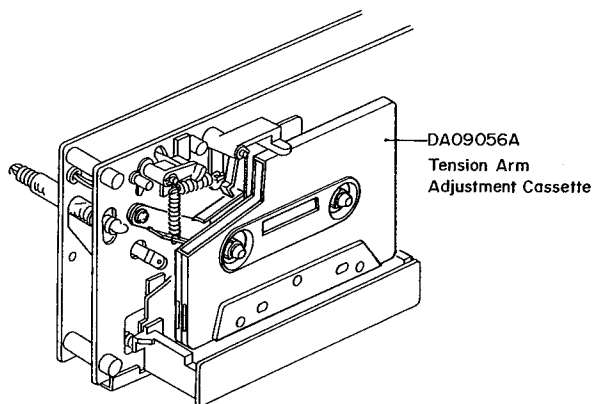
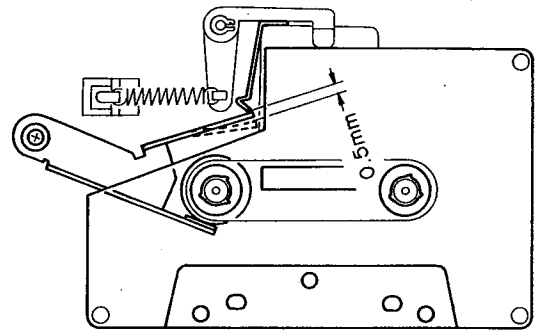

Fig. 4.18
Fig. 4.19
Refer to Figs. 4.18 – 4.21.
- (1) Load a Tension Arm Adjustment Cassette (DA 09056A) in the N-700ZXL referring to Fig. 4.18.
- (2) Set the N-700ZXL in Play mode.
- (3) Bend the Back Tension Arm with pliers so that the gap between the Cassette Holding Spring assembled on the Head Base Ass'y and the Back Tension Arm becomes 0.5 mm as shown in Fig. 4.19. Do not bend the pointed end of the Back Tension Arm.
- (4) Set the N-700ZXL in Stop mode, and remove the Tension Arm Adjustment Cassette (DA09056A), then set the N-700ZXL in Cue mode.